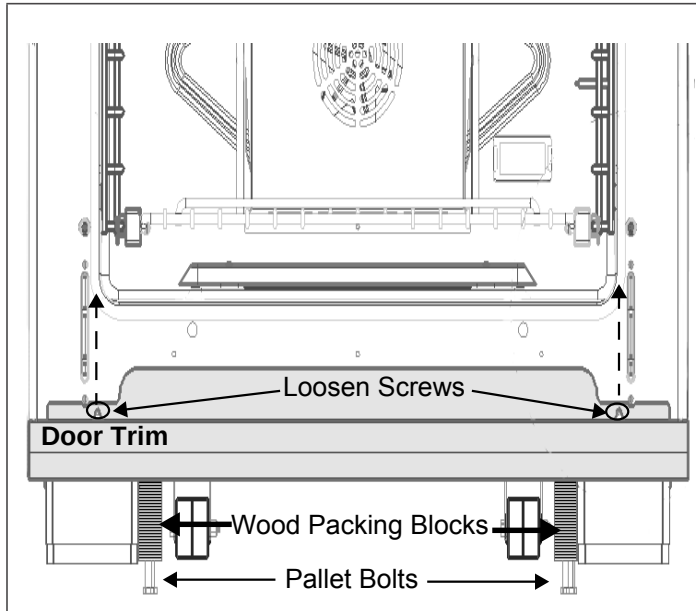

FIGURE 5: DOOR TRIM, PACKING BLOCKS, & PALLET BOLTS
3. All ranges are held to the pallet by (4) bolts through a wood block center (Figure 5). The two front pallet bolts are accessible only after removing the Door Trim located beneath the doors.